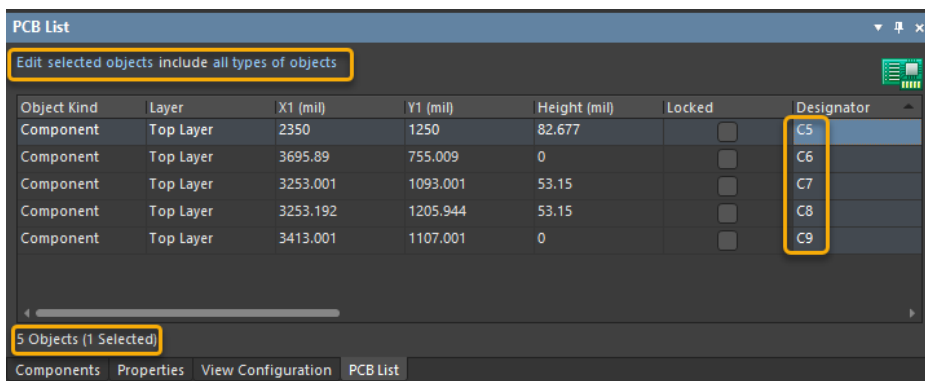

Figure 14. *PCB List* panel showing 5 components selected in the PCB
46. Change the **all objects** hyperlink to **selected objects**. The *PCB List* panel will now display only the selected components as shown in Figure 14 below.